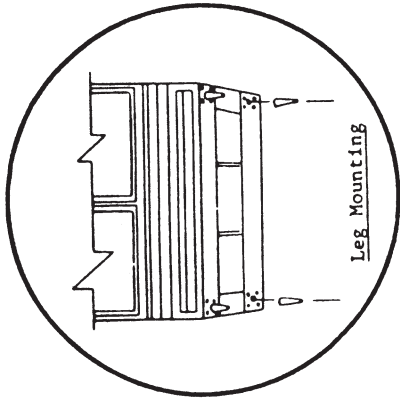

Fig. 1
b. Legs & Casters: (See Fig. 1)